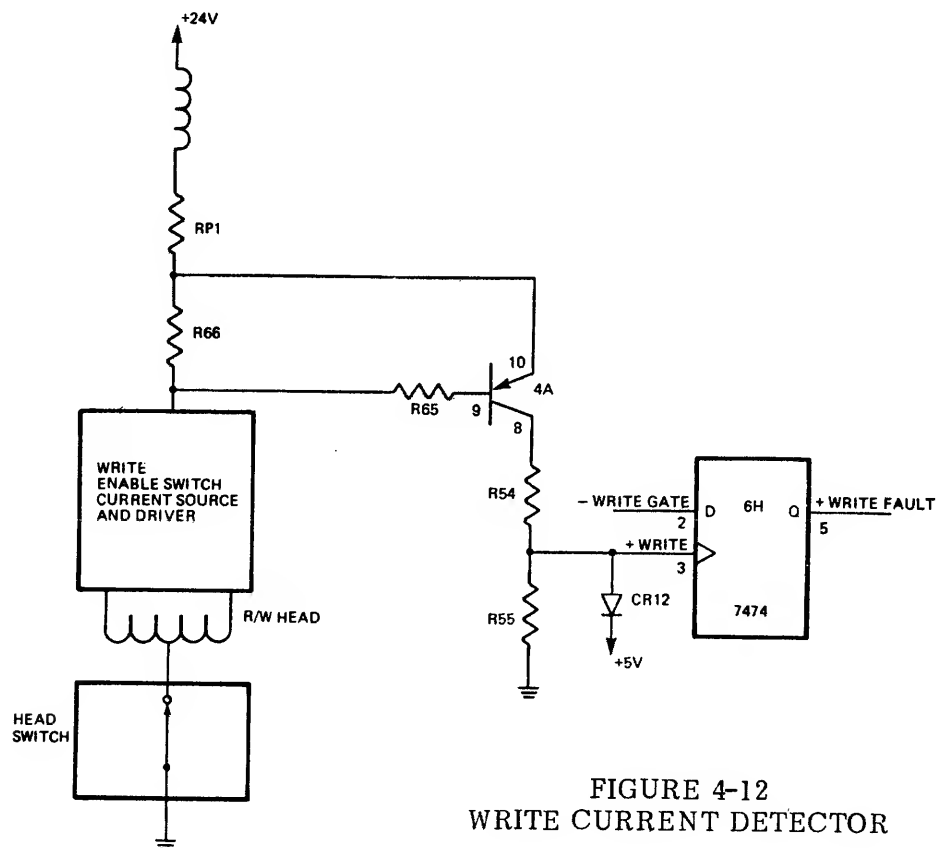

FIGURE 4-12
Figure 4-12 illustrates the write current detector used to trigger the write fault flip-flop 6H. The flip-flop is at 4D on Figure 6-2. The remainder of the circuit is found on Figure 6-3 at B6. Transistor 4A (8, 9, and 10) remains in the off state until current flows through R66. The positive to negative drop across R66 causes 4A to turn on allowing current to flow through R54 and R55 to ground. The positive voltage drop across R55 is clamped to +5 V and will clock the write fault flip-flop 6H set if the WRITE GATE signal is not true (HI) and the drive is selected.